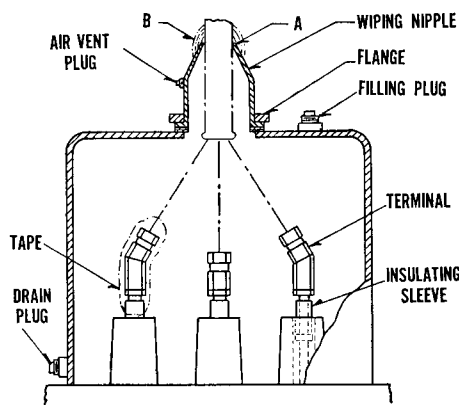

FIG. 1
Refer to Fig. 1 to 4 using figure which applies.
**Note:** In case it is desired to fill the terminal chamber with oil instead of compound it is recommended for Figures 1 and 2 that a short length of pipe and a container with a suitable capacity to form an expansion chamber be substituted for the filling plug, and located above the